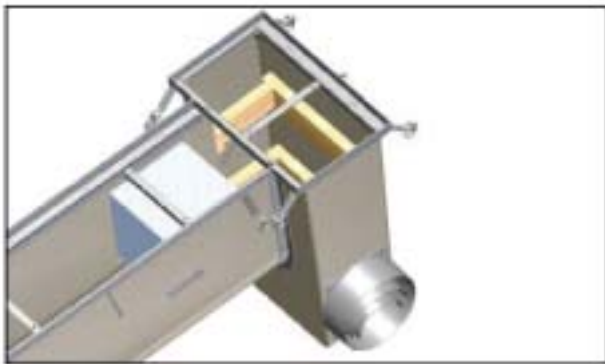

Figure 9.1
- FP1251 catch basins should be braced with 2x4's. See Fig. 9.1